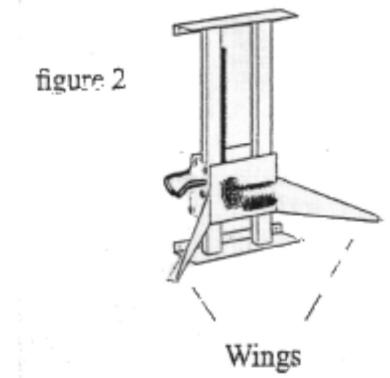

figure 2
3. With the cabinet laying on it's top, be sure to orient the **Lift** as shown in figure 2. Place the **Lift** inside the cabinet. There are two holes on the bottom side of the table top. Line these holes up with the holes on the **Lift**. Insert a screw in each hole. Make sure the screws are tight but **DO NOT STRIP**.